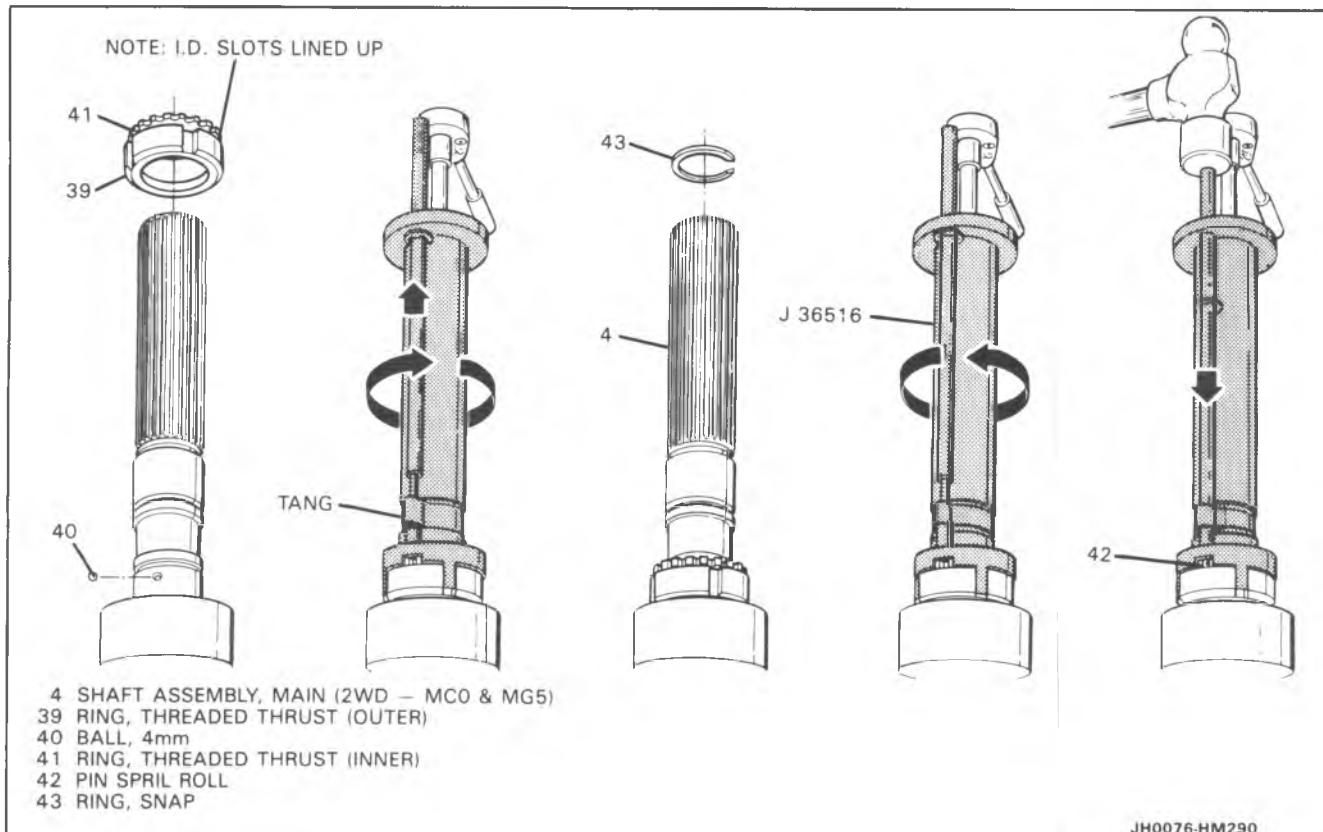

Figure 82 2WD Threaded Thrust Rings Assemble
1. Ball (4mm) (40) (Figure 82).